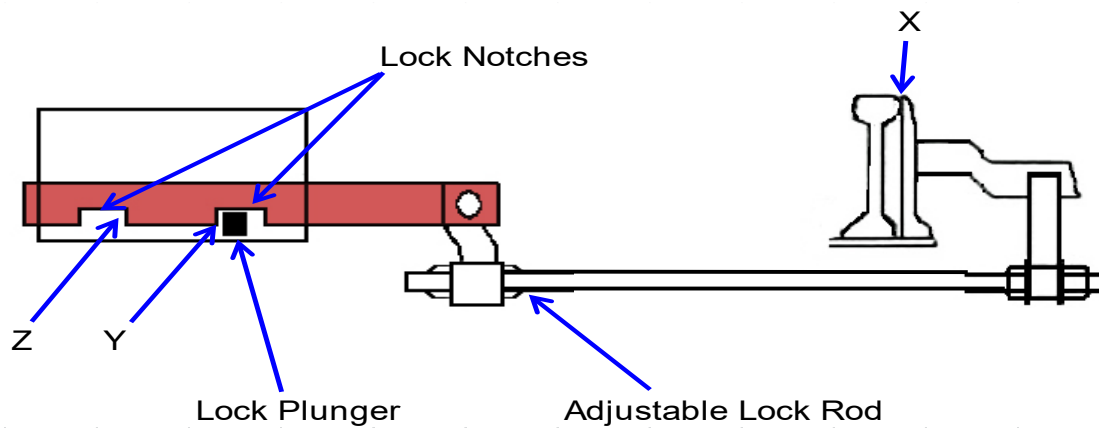

Figure 1 – FPL Blade Connections
1.5 With point switch fully closed (X), confirm there is a 1.5mm clearance on each lock face (Y & Z) see Figure 1.